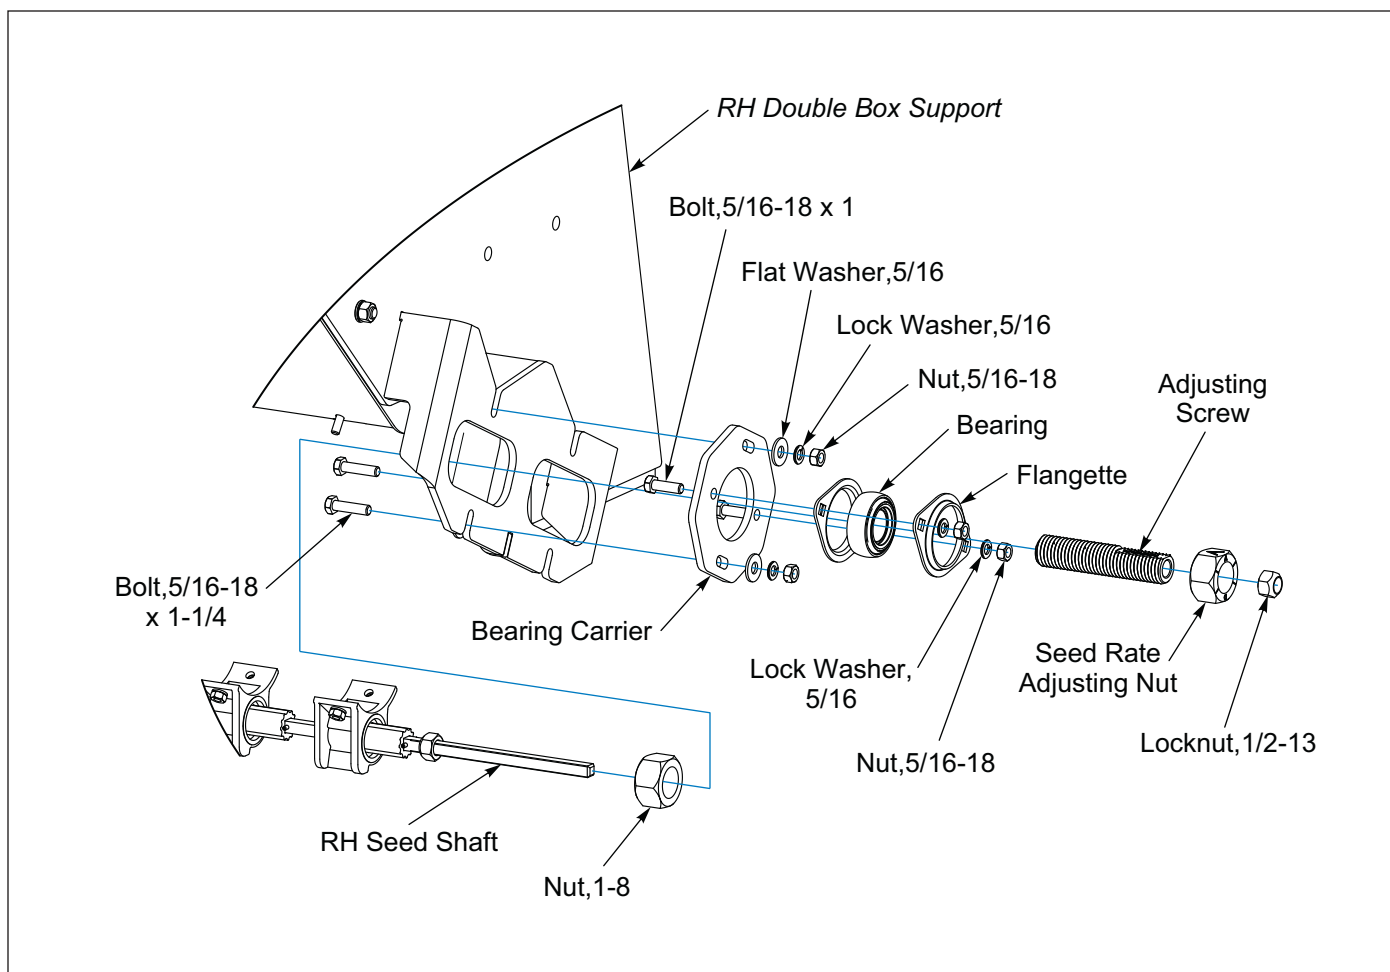

Figure 2-51: Rear Box RH End Assembly
29. Install Bearing Carrier onto RH Double Box Support with 5/16-18 x 1-1/4 Bolts, Flat Washers, Lock Washers and Nuts. **See Figure 2-51.**